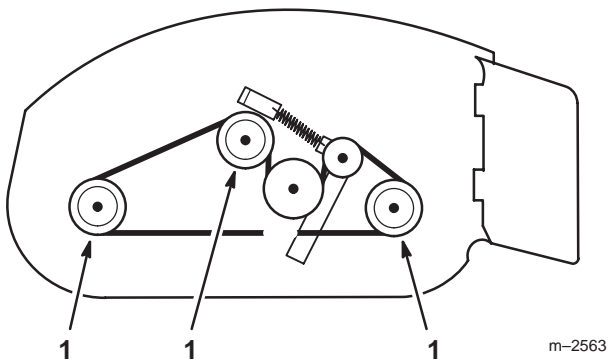

Figure 23
1. Grease the fittings on the three spindle pulley bearings (Fig. 23).